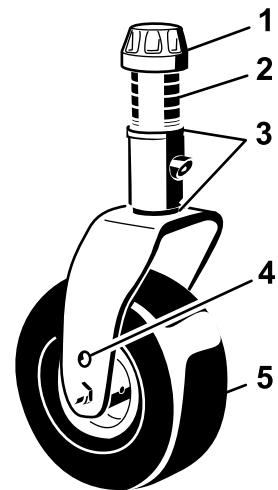
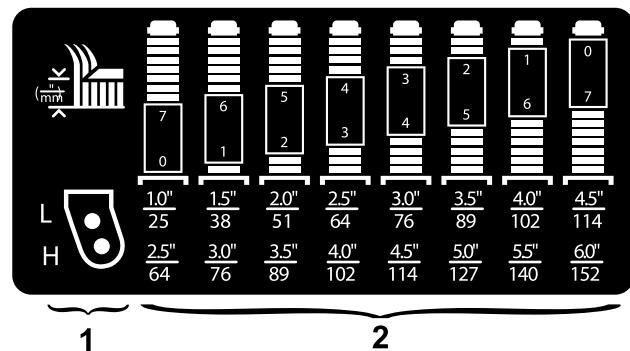

Figure 7
Figure 8
Position the castor-wheel axles in the same holes in both castor forks. Refer to Figure 7 and Figure 8 to determine the correct holes for the setting.
1. Remove the tensioning cap from the spindle shaft (Figure 7) and slide the spindle out of the castor arm. Put the 2 shims onto the spindle shaft as they were originally installed. These shims are required to achieve a level across the entire width of the cutting units.
2. Slide the appropriate number of spacers onto the spindle shaft to get the desired height of cut (Figure 7).
Refer to Figure 8 to determine the combinations of spacers for your desired height-of-cut setting.